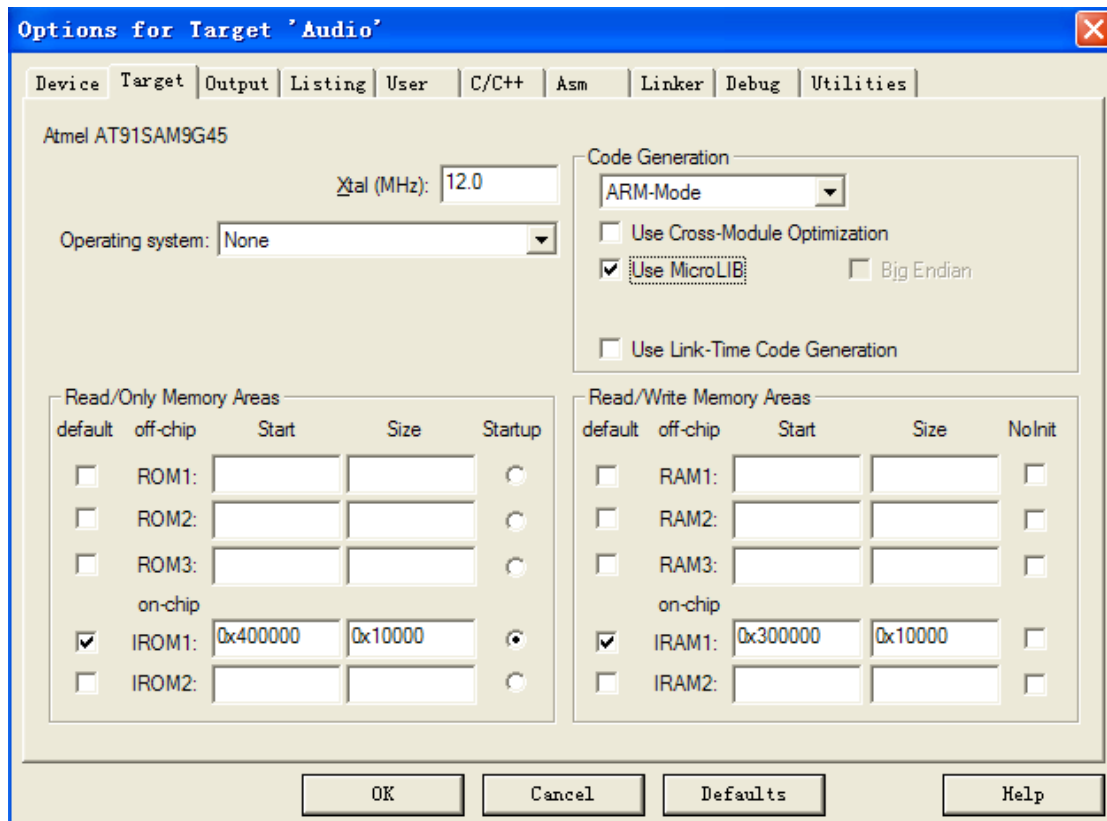
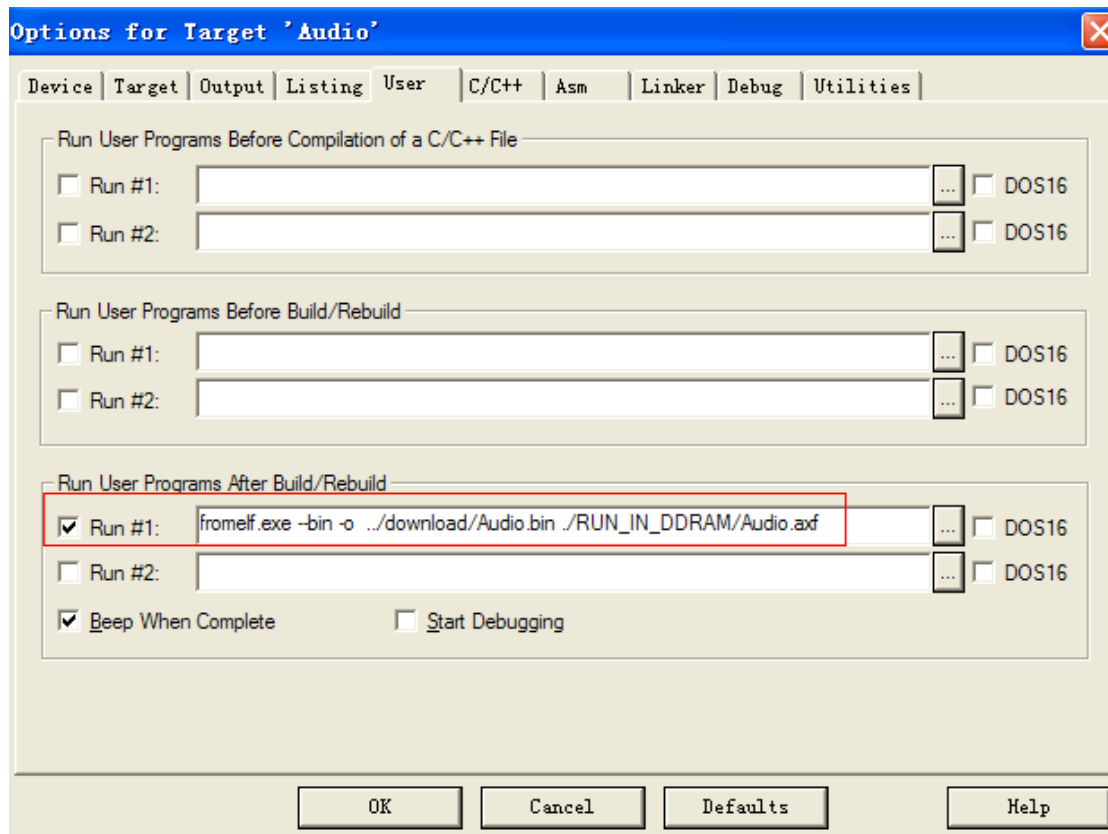

Figure 3-1
Figure 3-2
- (1) Select menu “**Project**”->”**Options for Target Audio**”, open setting window. Refer to figure 3-1:
(2) Click “User” Tab in figure 3-1. Input command which specifies binary file formation in “Run User Programs After Build/Rebuild”, as show in figure 3-2: